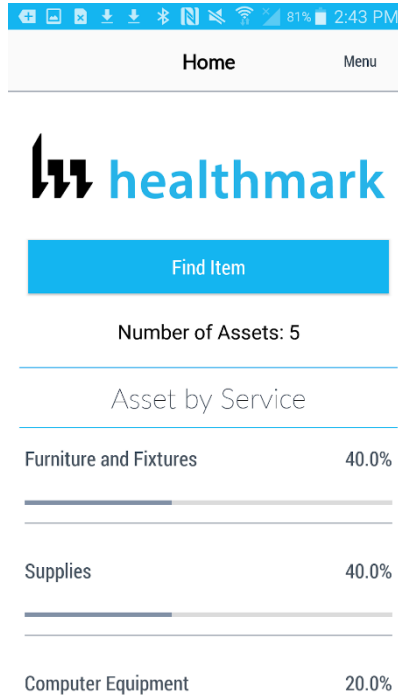
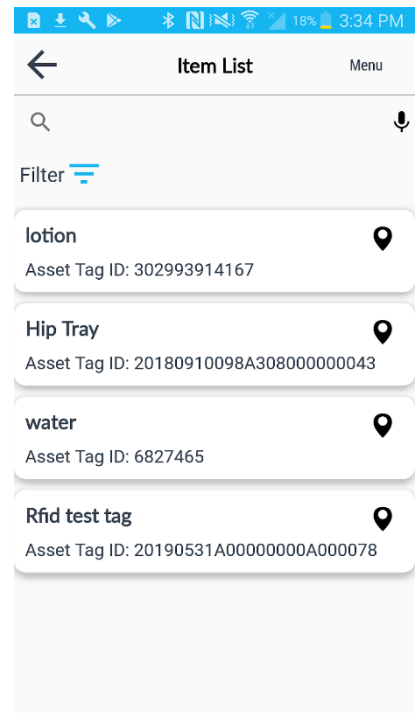

Figure 34
Figure 35
- To edit in item or tray tap Menu on the home screen, tap on Item List, then select from the items listed and tap on the item or tray to be edited. **Fig. 34, Fig. 35**